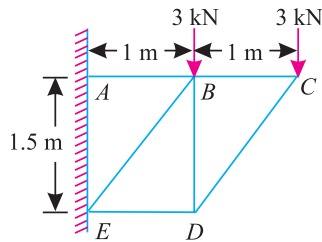

Fig. 13.40.
4. A cantilever truss is subjected to two point loads of 3 kN each at  $B$  and  $C$  as shown in Fig 13.40. Find by any method the forces in the members  $AB$ ,  $BE$  and  $ED$  of the truss.